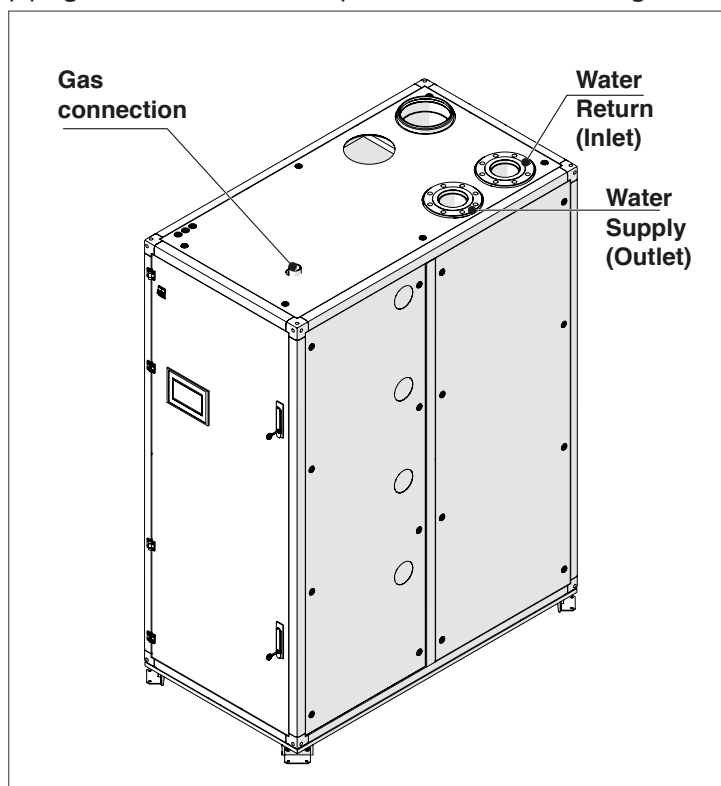

Fig. 11 AR1000, AR1500 and AR2000 Connections
The Array Boiler utilizes 3" ANSI flanges for models AR 1000 and AR 1500 and 4" flanges for model AR 2000 for the water OUTLET and INLET piping connections. The physical location of the supply and return piping connections is on the top of the unit as shown in Fig. 11.
**Array AR 1000, AR 1500 and AR 2000** boilers contain a 1.5 inch NPT gas inlet connection on the top of the unit as shown in Fig. 11.